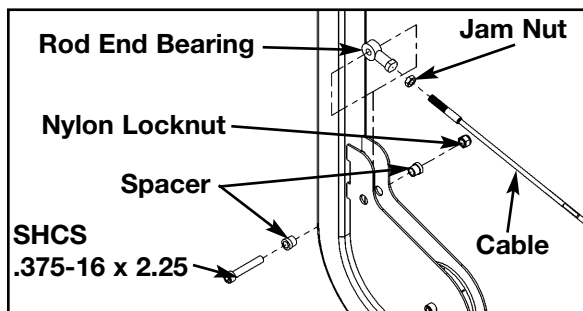

Figure 1
**B.** Adjust jam nut to remove slack. See Figure 1.